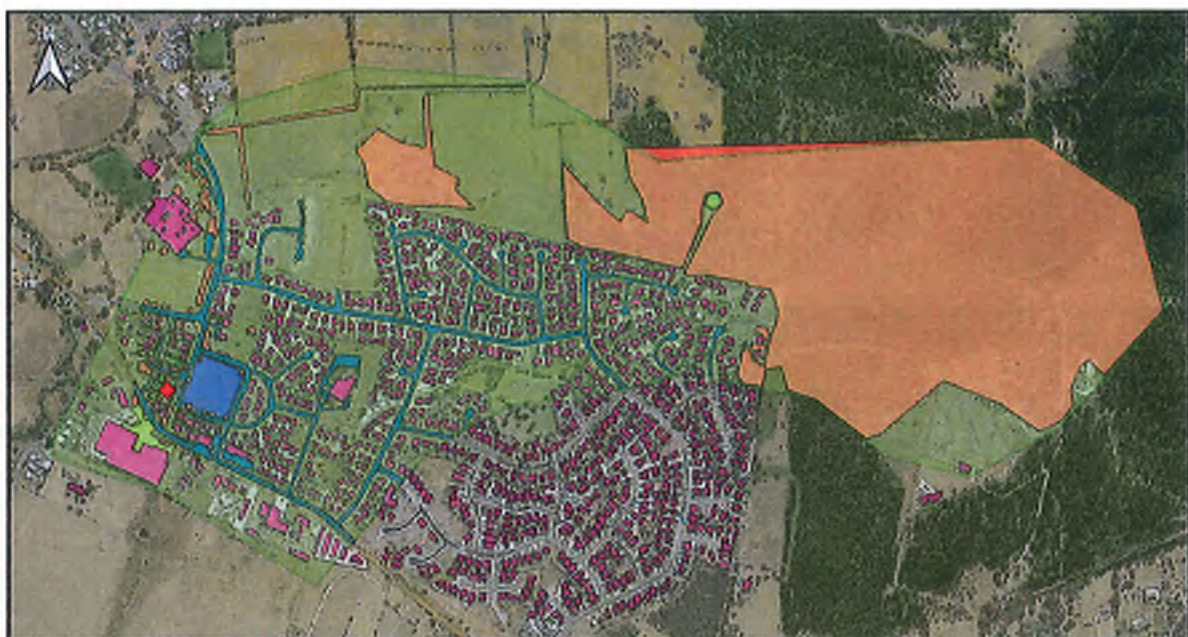

Figure 5: TUFLOW Model Material Roughness Layers
| Figure 5:  | TUFLOW Model Material Roughness Layers.....   | 7  |
- The catchment surfaces were estimated from aerial imagery (roughness layer shown in Figure 5)